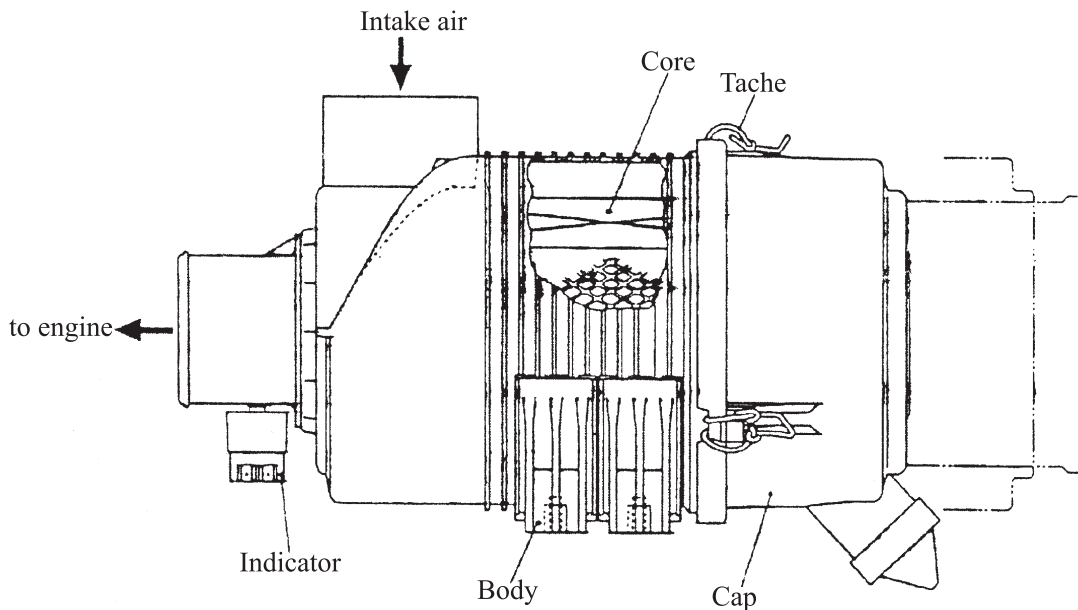

Fig.1-5 Air cleaner
1.3.1 For air filter, please See Fig.1-5.